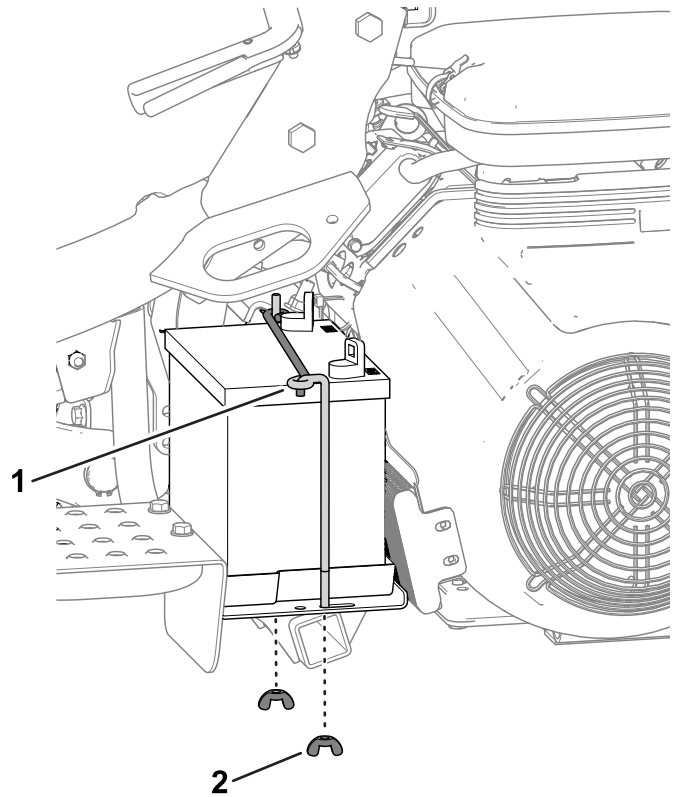

Figure 35
2. Remove the wing nuts and rods that secure the battery to the platform (Figure 35) and lift out the battery.
5. Place the battery on the battery tray and secure it with the previously removed rods and fasteners (Figure 35).